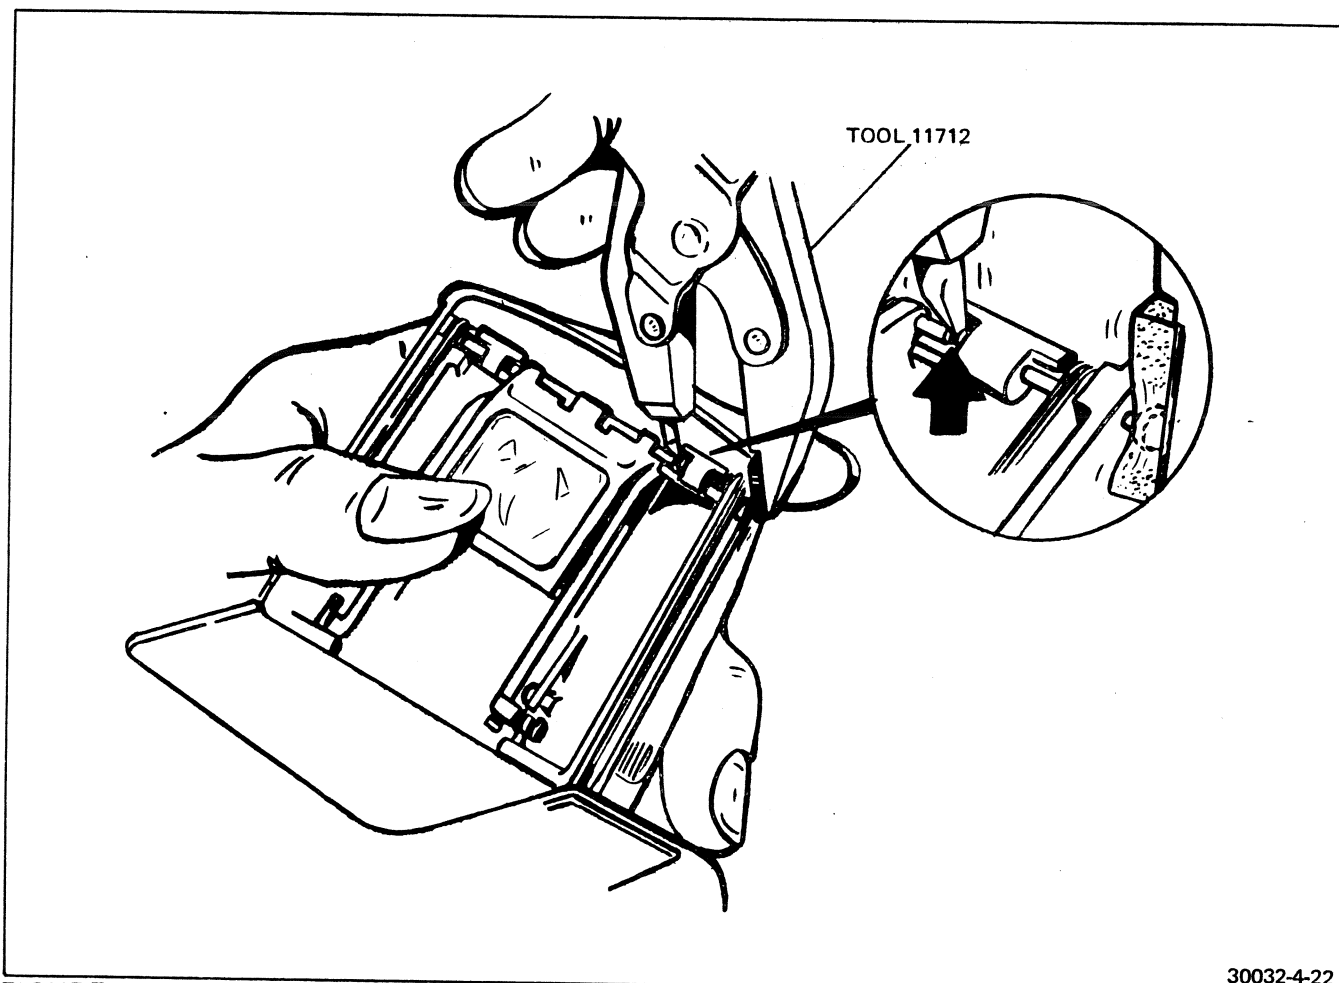

FIGURE 4-22 USING TOOL 11712 TO REMOVE EYELENS HINGE PIN
- b. Using the Special Tool #11712 (Figure 4-22) press out either end of the three-piece pivot pin until the pin emerges far enough to permit inserting a jeweler's screwdriver underneath the head of the protruding pin and pry out.
- b. Using the Special Tool #11712 (Figure 4-22) press out either end of the three-pivot pin until the pin emerges far enough to permit inserting a jeweler's screwdriver underneath the head of the protruding pin and pry out.